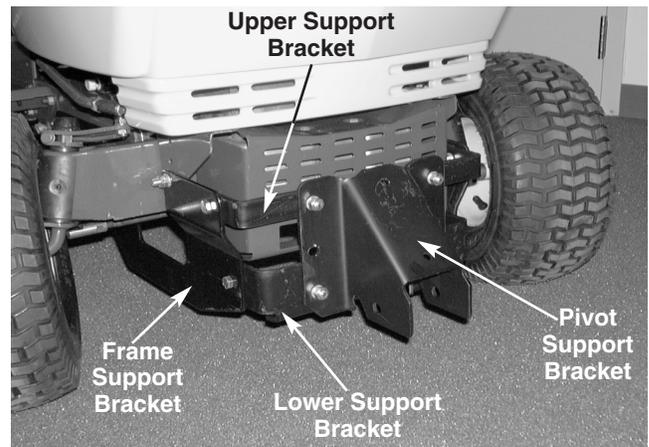

FIGURE 6.
- Secure the upper and lower support brackets to the pivot support bracket with four hex bolts, lock washers, and hex nuts. Tighten using a 9/16" socket. See figure 6.
- Secure the upper and lower support brackets to the frame support brackets with four hex bolts, lock washers, and hex nuts using a 9/16" socket. See figure 6.